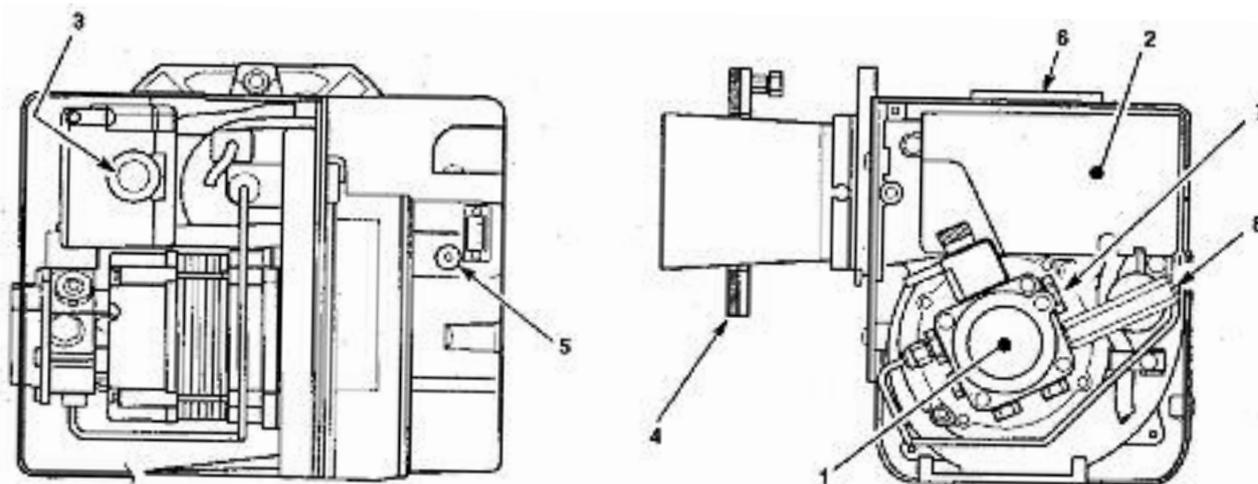

Fig. 16 - RDB burner components
- 4 Connect a combined vent manifold and pressure gauge to the pressure gauge connection port on the oil pump. See Fig. 16. Open the vent screw on your vent manifold to vent the supply while the pump is running.
- 7 With the burner alight, check the fuel pressure. Refer to the Technical Information, sections 2.2. Adjust the pressure if necessary - see Fig. 16.
- 12 Check the smoke number, if satisfactory check the CO₂. Use the hexagonal key supplied to adjust the burner air damper (see Fig. 16) as required. Turning the screw clockwise opens the damper and reduces CO₂ level, turning the screw anticlockwise closes the damper and increases CO₂ level.